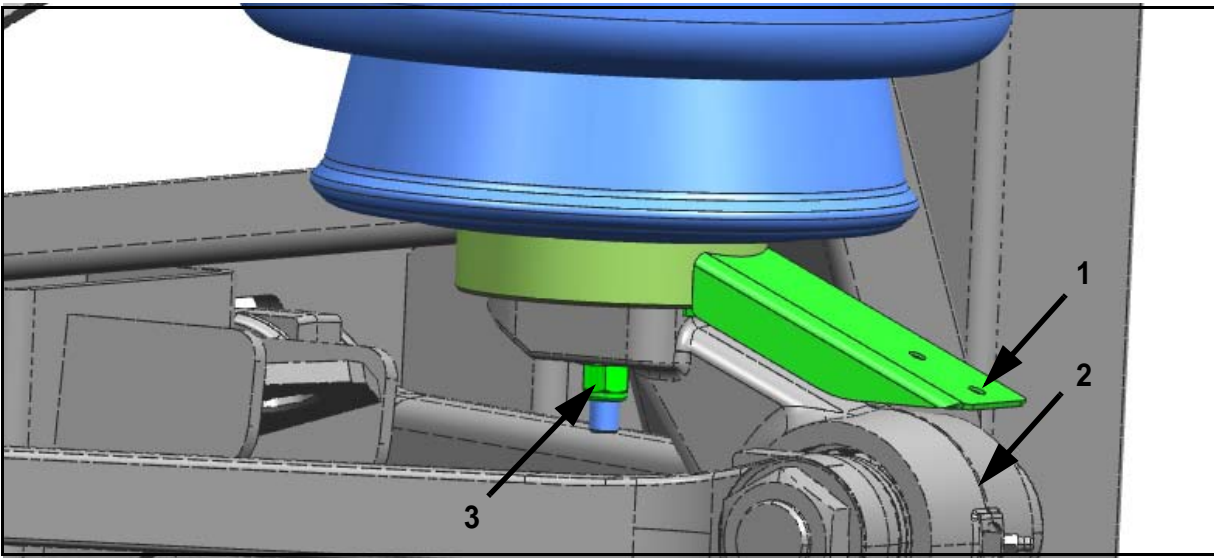

Figure 14.
37. Using a square or straight edge, ensure that the geometry of the first brake hose clamp is parallel to the center of the kingpin (refer to Figures 14 and 16).
If adjustment is required, loosen (do not remove nut from stud) the nylock nut on the airspring assembly and orient to achieve the brake hose clamp parallel to the center of the kingpin (refer to Figure 14). Torque nylock nut to 40-50 ft-lbs.
Item	Figure 14 Description